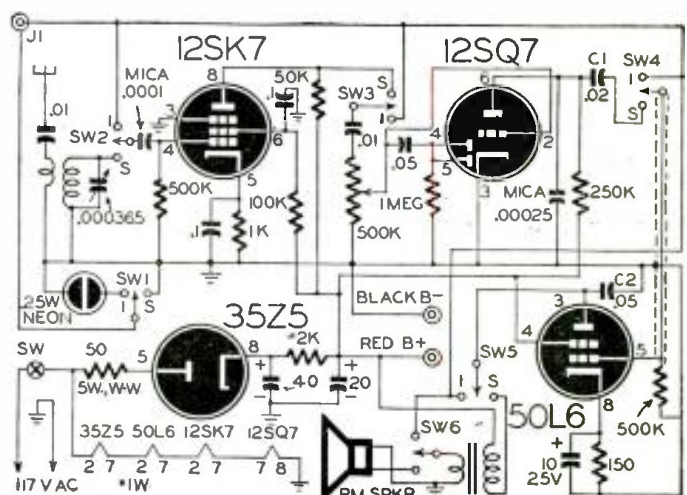

Fig. 1—The circuit. S switch position is radio (set). I stands for input.
**A**LL voltages—heater, plate and screen—of the receiver shown in Fig. 1 are obtained directly from the 32-volt d.c. line.